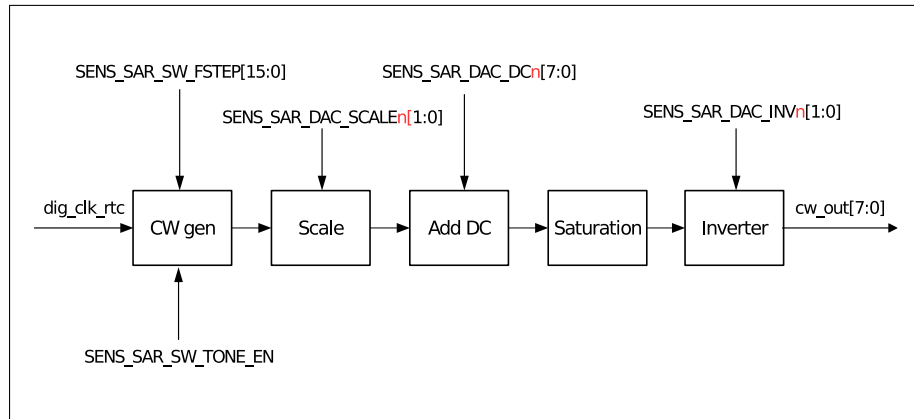

Figure 82: Cosine Waveform (CW) Generator
The cosine waveform (CW) generator can be used to generate a cosine / sine tone. A diagram showing cosine waveform generator's function is presented in Figure 82.